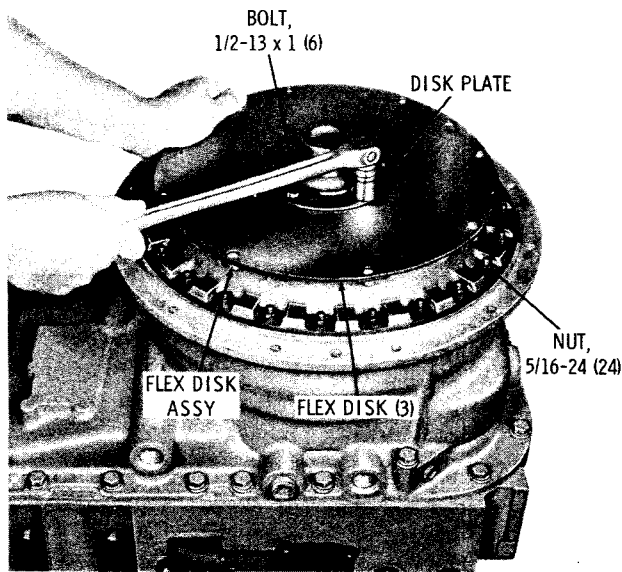

Fig. 7-39. Installing flex disk assembly (direct mount)
(2) Install twenty-four 5/16-24, self-locking nuts to retain the cover (fig. 7-39). Tighten the nuts to 14 to 18 pound feet (19 to 24 Nm) torque.
(3) Install the flex disk and washer assembly, washer side first, onto the hub of the converter cover (fig. 7-39). Assemble the three flex disks so that the cone of each will be parallel to the flex disk and washer assembly and install the three disks as a unit. Install the diskplate and align all the disk holes with the tapped holes in the converter drive cover. Install six 1/2-13 x 7/8-inch, self-locking bolts and tighten them to 81 to 97 pound feet (110 to 131 Nm) torque.
(4) If the transmission is equipped with a wet converter housing, gasket 17 (B, fold-out 2) must be used when the transmission is attached to the engine housing.